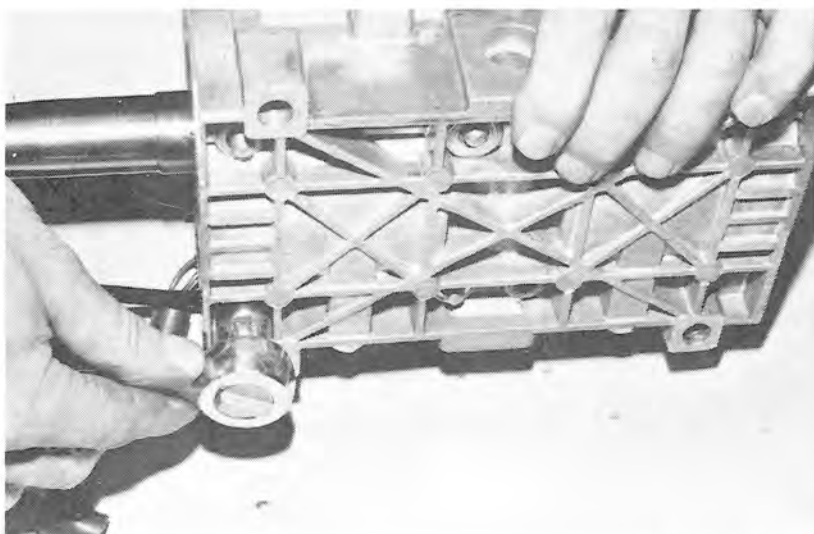

FIG. 1-23
Remove the eight (8) cylinder base nuts using a 13 mm socket wrench and remove the eight (8) spring washers. The cylinders may be removed. See Fig. 1-23.